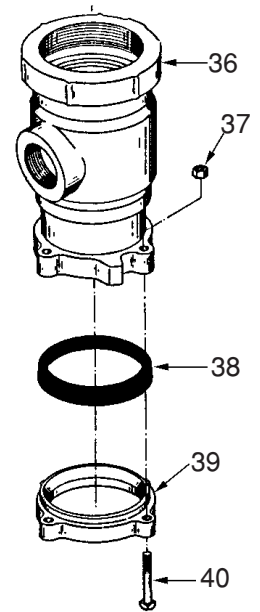

Figure 4
- E2 Spool with check valves for Flowing Well, Figure 4
- E0 Spool without check valves for Flowing Well, Figure 4
FIGURE 4